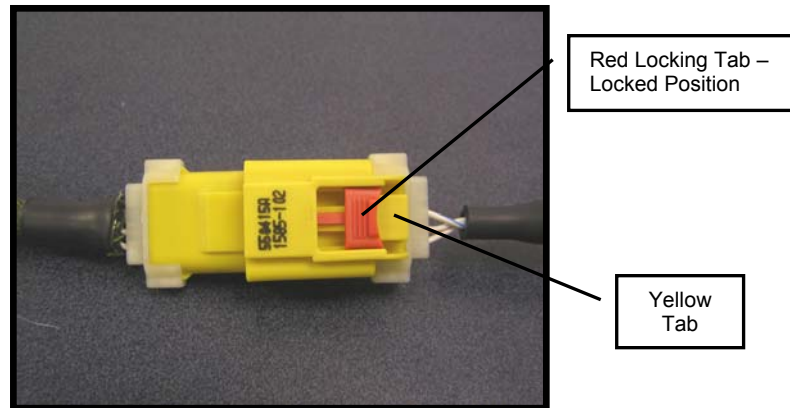

Figure 4 – SAA and Retractable Extension Cable Assembly Electrical Connector
1. Disconnect the **Cable Interface Assembly** (41) from the **Retractable Extension Cable Assembly** (Figure 1) (40) by sliding the Red Locking Tab backwards to the unlocked position, depressing the Yellow Tab, and then pulling apart both connector halves (Figure 4).
4. Connect **Cable Interface Assy (40)** to **Retractable Extension Cable Assembly**. Connect mated halves together in proper orientation and slide Red Locking Tab forward to locking position (Figure 4).